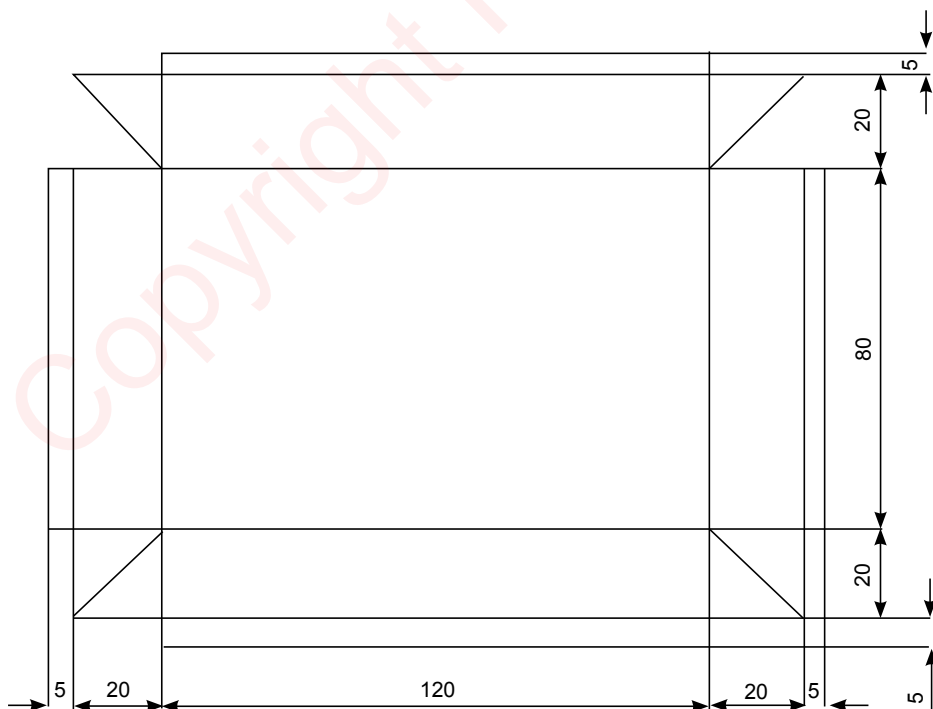

Fig.12.10: Sheet Metal Job Dimensions
(For this practical student will select the appropriate tools and equipment for the given sheet metal job shown in Fig. 12.10)
1. Interpret the sketch or drawing given in Fig. 12.10 and note the dimensions for marking.
2. Collect tools and sheet metal of required size as shown in Fig. 12.10.